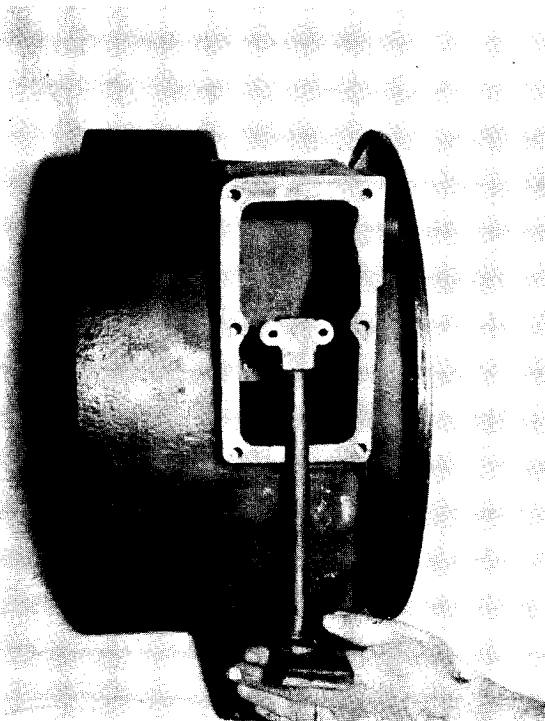

Fig. No. 10
The pump inlet tube assembly can be found in the housing just above the bottom cover plate (26). It can be removed for inspection and cleaning. (See Fig. No. 10)